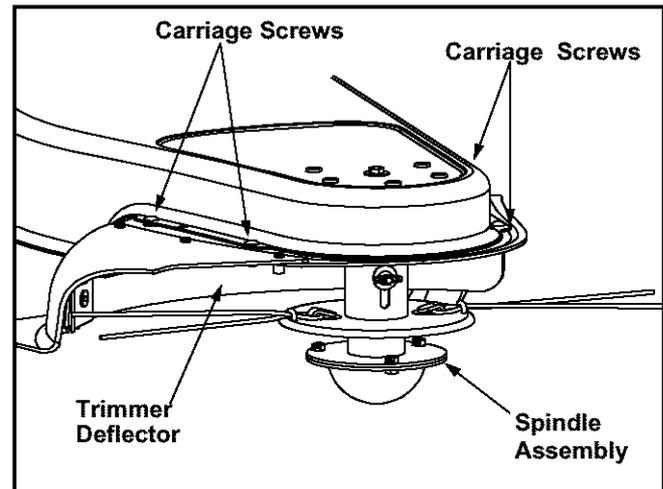

Figure 10
- Remove carriage screws, washers, and hex nuts that secure the trimmer deflector to the base. See Figure 10.